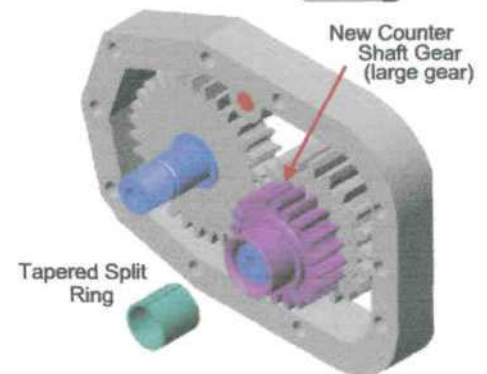

Figure 2.5
- 2.6 Install new countershaft gear to the transmission countershaft. **Ensuring that gear is fully seated against shoulder of shaft**, insert tapered split ring (tapered end first) into the new counter shaft gear. Figure 2.5